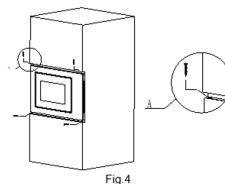

Fig.4
4. Use the screws of parts packing to secure the microwave oven in the cabinet. (Fig.4)